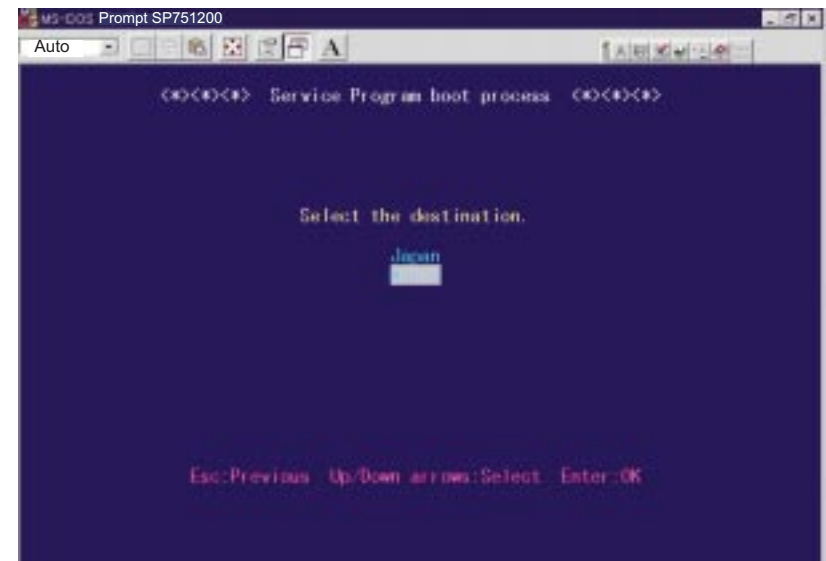

Figure 5-3. Destination Selection
5. Select "Stylus Photo 1200" by using $\uparrow\downarrow$ key and press "Enter" key. Then, the screen for destination (See Figure 5-3) will appear.